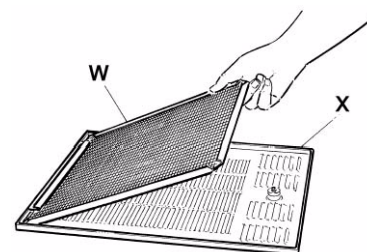

FIGURE 23
3. Remove the filter (W) held inside the back panel (X) and clean it properly using water or vacuum (see Figure 23).